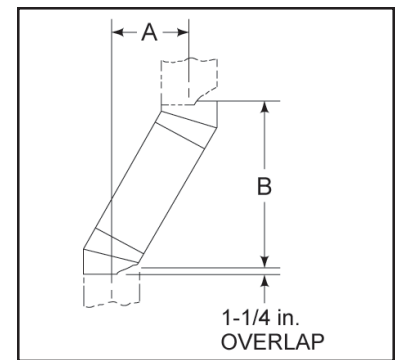

Figure 7 - Chimney Offset/Return
- 1) Measure how far the chimney needs to be shifted to enable it to avoid the overhead obstacle. See Figure 7, dimension "A" to determine chimney sections required to achieve the needed shift.
Example: Your "A" dimension from Figure 7 is 14½". Using Table 1 the dimension closest to, but not less than 14½" is 14⁵/₈" using a 30° offset/return. It is then determined from the table that you would need 33" (Dimension "B") between the offset and return. The chimney components that best fit your application are two SL312s.